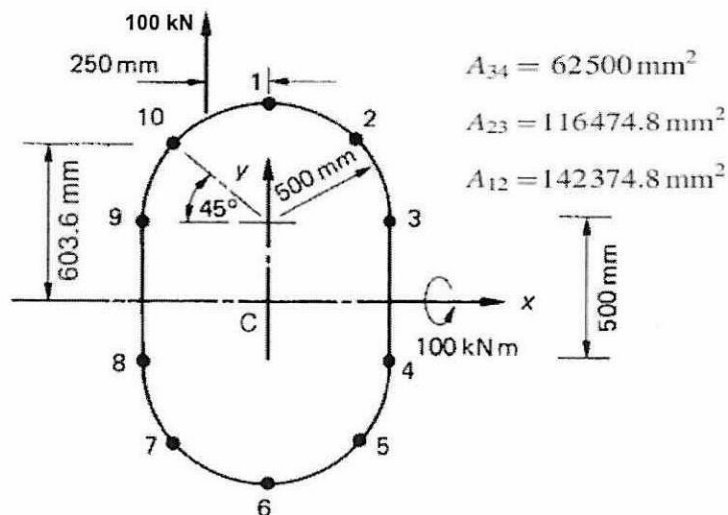

Figure Q4.1
- (b) Figure Q4.1 shows the doubly symmetrical fuselage section has been idealized into an arrangement of direct stress carrying booms and shear stress carrying skin panels. All the boom areas are 150 mm^2 . The section is then subjected to a shear load of 100 kN and a bending moment of 100 kNm .
- (b) Determine the shear flow distribution in the fuselage section in **Figure Q4.1** by replacing the applied load by a shear load through the shear center together with a pure torque. Sketch the fuselage section and show the shear distribution in the section. (19 marks)